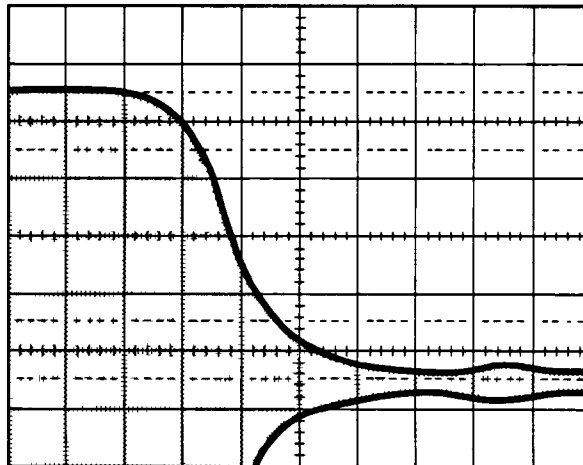

Figure 4-15. Pulse Modulation Fall Time Waveform
7. Adjust the oscilloscope horizontal position control to view the modulation envelope fall time. Position the waveform so that the modulation envelope crosses the 90% graticule line similar to Figure 4-15.